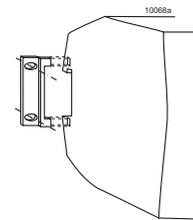

Figure 1. Wall mounting brackets HZZ00618-G (UMB- W)
- Mounting brackets HZZ00618-G (UMB-W), Fig. 1.